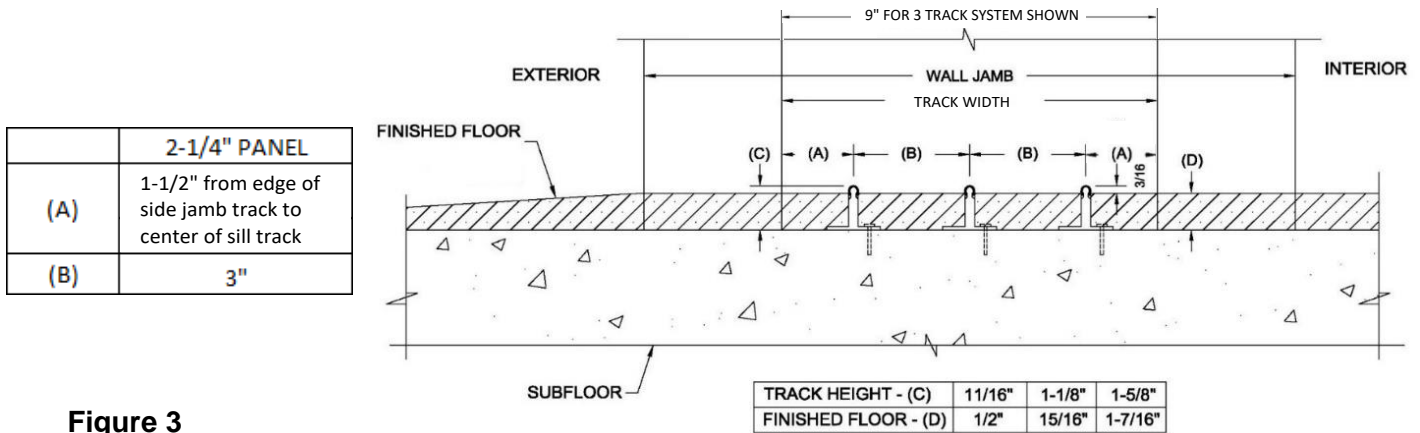
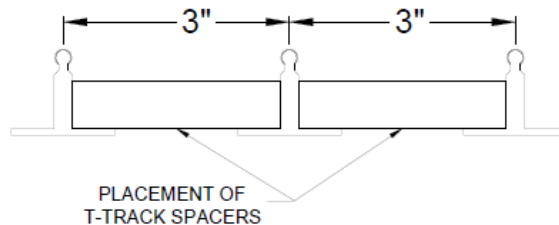

Figure 3
Figure 4
NOTE: It is important to reference and understand Figure 3 below, for required dimensions and placement of the T-tracks to the opening before proceeding with the installation of the T-tracks.
- 2.4 Install T-tracks starting from the exterior. Determine the placement of bottom of the T-tracks based on diagram in Figure 3. Measurement between centerlines (label B) of adjacent T-tracks is 3". T-tracks must be secured to subfloor using appropriate screws (not included) based on the material of subfloor in place.
- 2.5 Sill tracks must be level and square to the opening. Align and shim as needed. Continue installing sill tracks to the interior based on dimensions provided in Figure 3. Use the plastic sill track spacer template (supplied by SPW) to ensure proper spacing of tracks (see Figure 4).